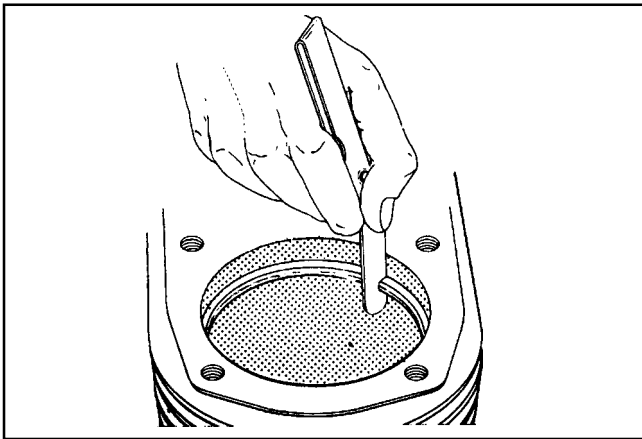

Figure 10-9. Measuring Piston Ring End Gap.
4. Before installing the new rings on the piston, place the top two rings, each in turn, in its running area in the cylinder bore and check the end gap. (See Figure 10-9.) Compare the ring gap to the specifications listed in Section 1.